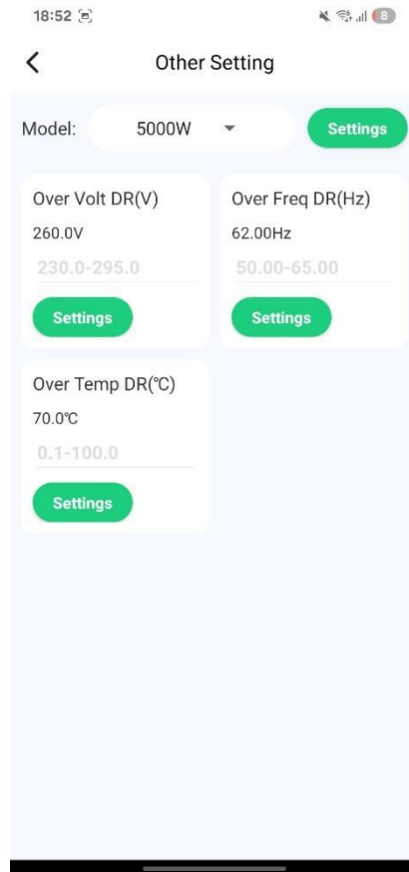

Fig. 4.20.7 Other Settings
1. In Other Settings, you can configure settings related to the model, overvoltage derating, over-frequency derating, overtemperature derating, and more, as shown in Fig. 4.20.7.